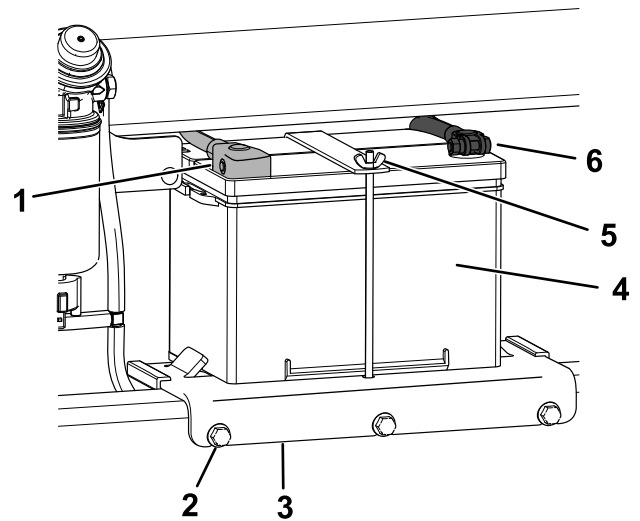

Figure 58
6. Disconnect the positive (red) cable from the battery post (Figure 58). Retain the fasteners.
7. Loosen the 3 bolts securing the battery tray and remove the tray with the battery (Figure 58).
4. Disconnect the negative (black) ground cable from the battery post (Figure 58). Retain the fasteners.
- Place the battery on the battery tray and secure it with the wing nut and rod (Figure 58).
- Install the battery tray to the machine and secure with the 3 bolts (Figure 58). Torque the bolts to 41 N·m (30 ft·lb).
- Using the fasteners previously removed, install the positive (red) battery cable to the positive (+) battery terminal (Figure 58).
- Using the fasteners previously removed, install the negative (black) battery cable to the negative (-) battery terminal (Figure 58).